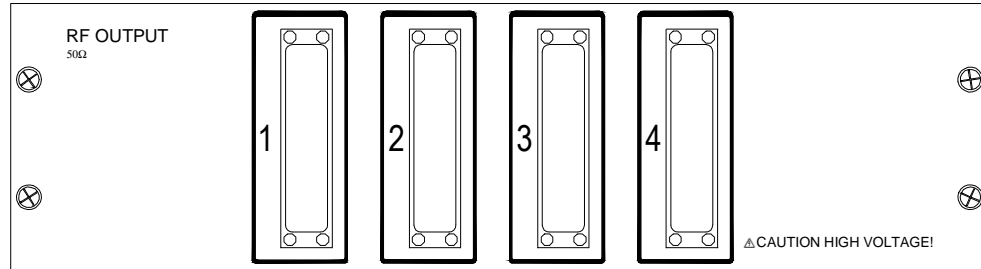

Figure 2 – RF Output
- 7 Connect a load to the amplifier RF output, as shown below (Figure 2), the output connectors are Cannon DLM-156.